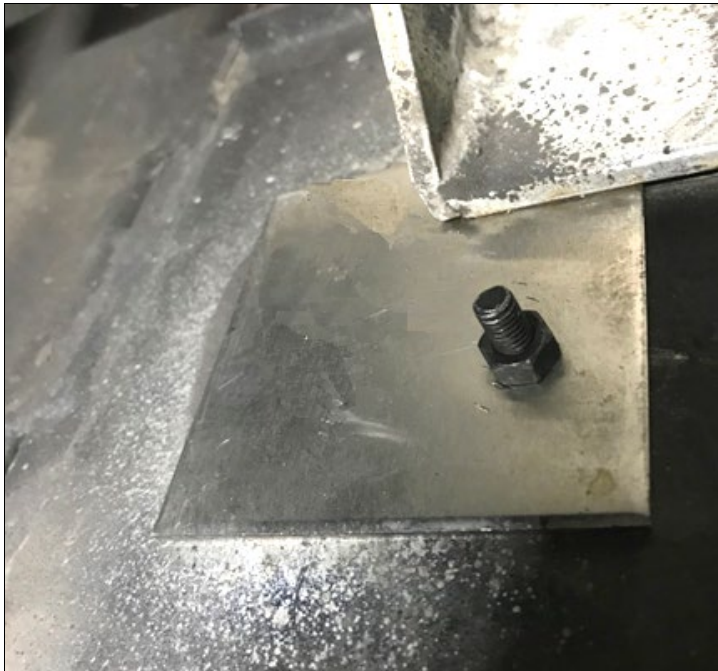

FIGURE 17 7770484 PLATE POSITIONNED FOR DRILLING
10. Reposition the drilled plate on the vehicle and secure with one of the supplied bolt/nut (**5001815**, **502854**) (Figure 17).